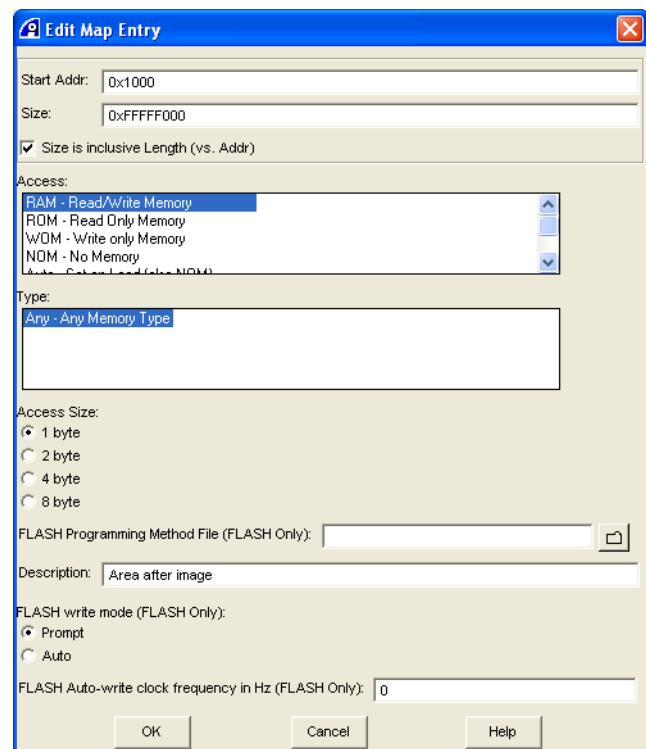

Figure 9-12 Edit Map Entry dialog box
2. Select **Edit Map Entry...** to display the Edit Map Entry dialog box. Figure 9-12 shows an example. The current settings for the chosen map entry are inserted into the appropriate fields.